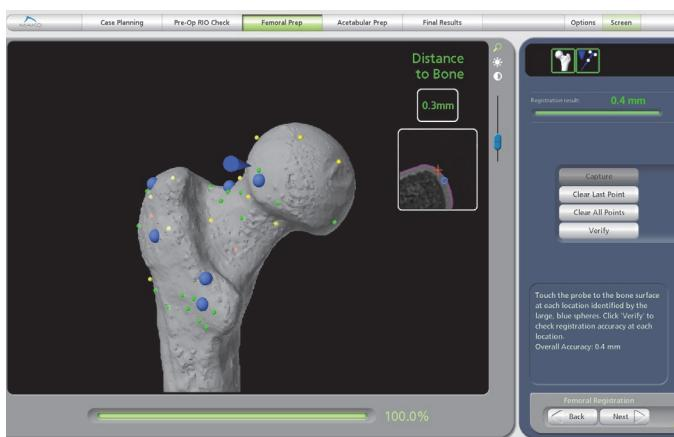

Figure 15. Femoral Registration Verification Pattern
3. **Registration Verification:** Verify the registration by placing the probe on the surface of the bone in the critical areas of the proximal femur identified in the software by the large blue spheres (Figure 15). If the distance to bone is less than 1 mm, the sphere will turn white. If the distance to bone within the verification sphere is more than 1 mm, the sphere will turn red. If more than one sphere is red, the registration should be repeated.